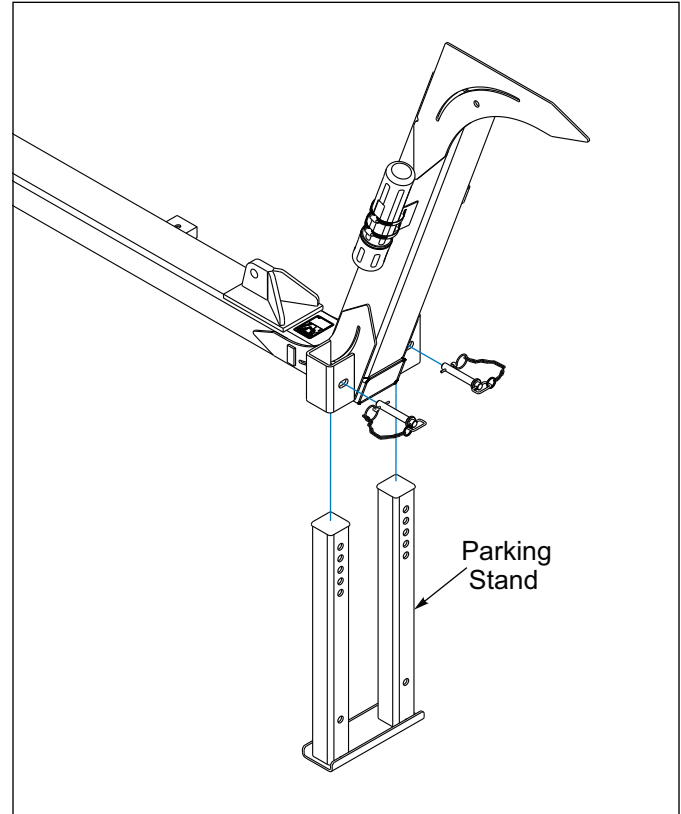

Figure 3-4: Parking Stand
1. Lower Parking Stand by removing two hitch pins and repositioning stand to a parking position. Use caution the parking stand weighs approximately 50lbs. **See Figure 3-4.**